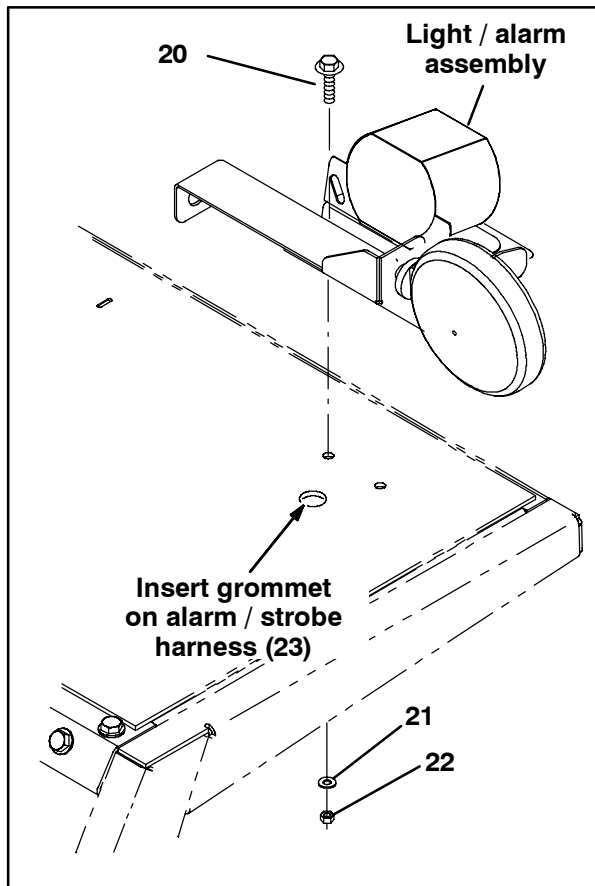

FIG. 2
5. Use two hex screws (20), two flat washers (21), and two hex nuts (22) to install the light / alarm assembly assembled in the previous several steps onto the overhead guard. Refer to Fig. 2.